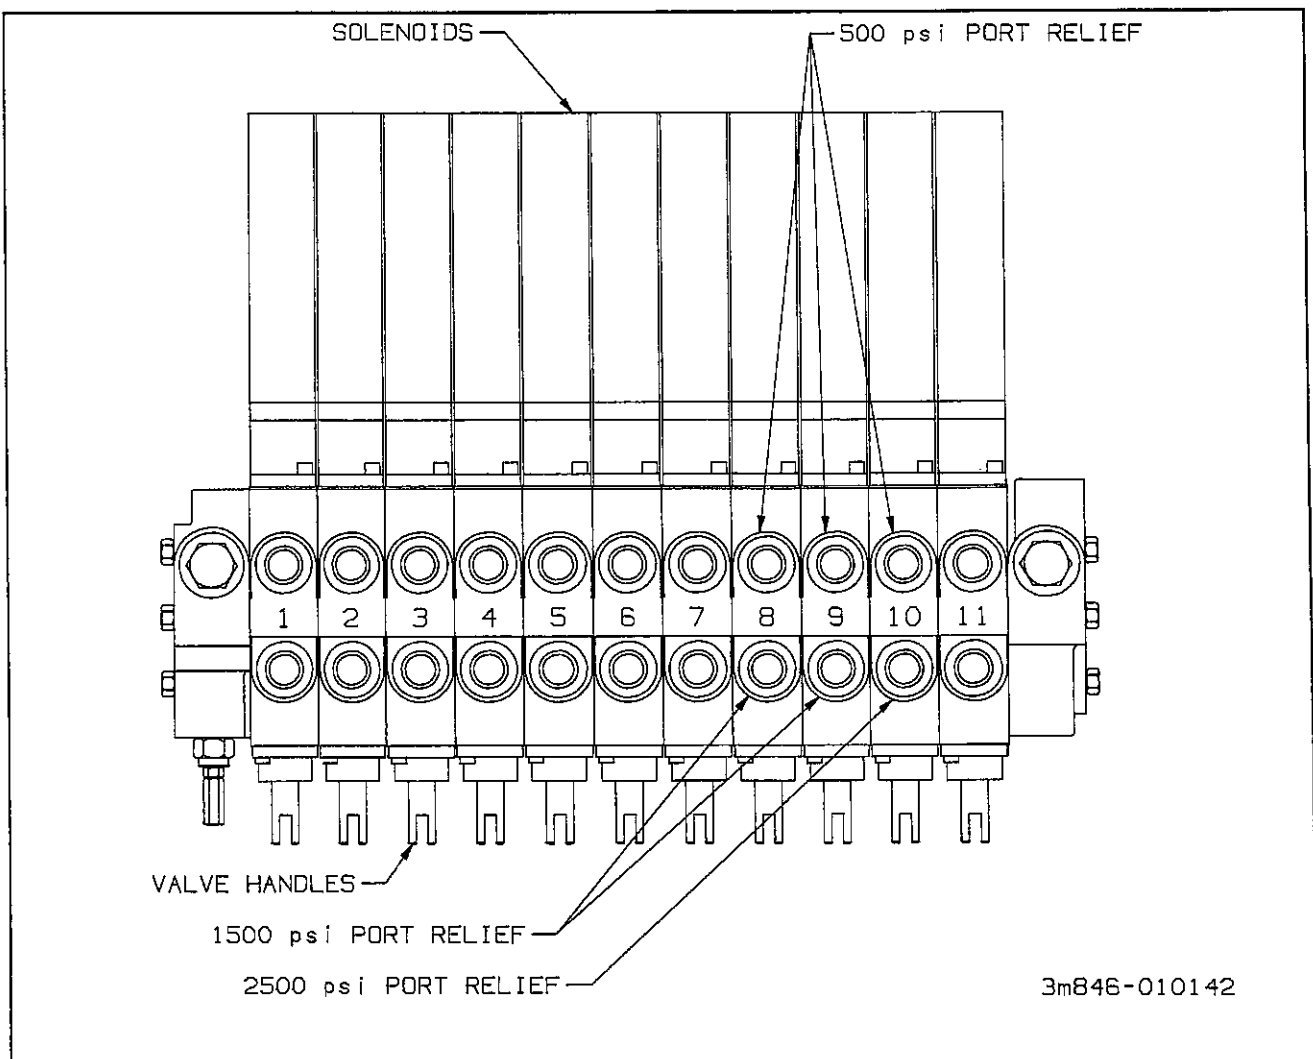

Figure 4-2 Pressure Settings for Control Valve Ports
a. Sections 1 through 7 and 11 on the control valve are set at 2500 psi. Sections 8, 9 and 10 have relief valves. The front ports of sections 8 and 9 should be set at 1500 psi and the rear ports at 500 psi. The front port of section 10 should be set at 2500 psi and the rear port at 500 psi. (see Figure 4-2).